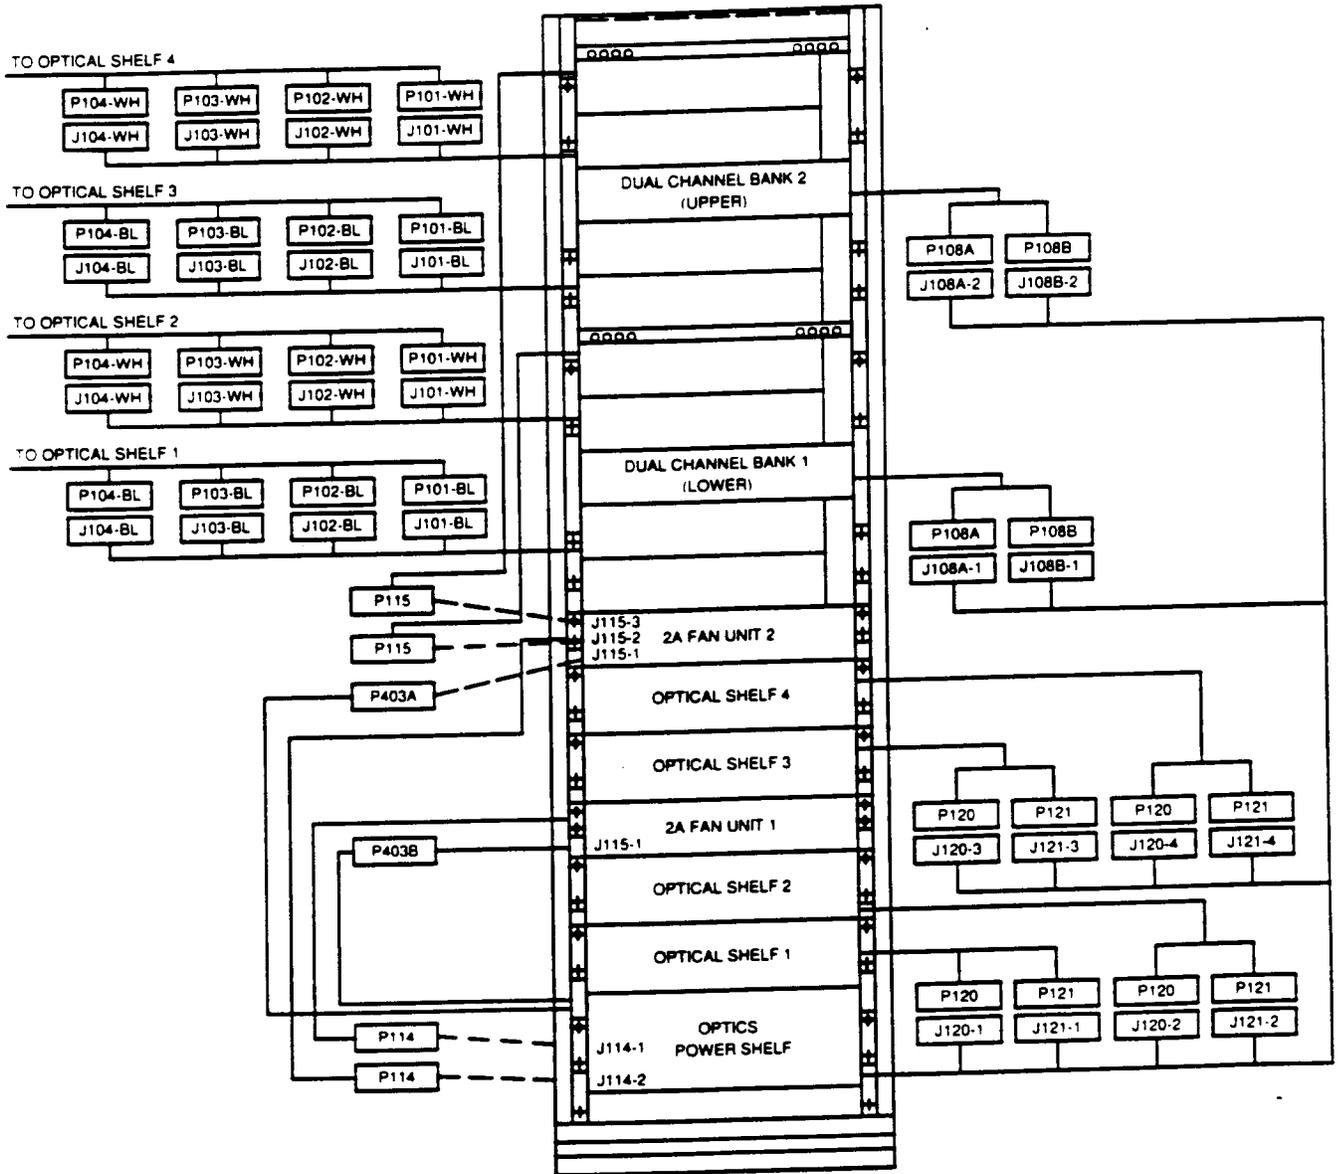

Figure 2—Fiber-To-The-Home 7-Foot Bay Cabling Connections
3. See TABLE C and FIG. 2 for bay connections from the Power Shelf Assembly.
4. See TABLE D and FIG. 2 for intershelf cabling arrangements.
5. Figure 1 shows the Fiber-to-the-Home 7-foot frame equipment bay arrangement. Note that the connections between the dual channel bank 1 and optical shelves 1 and 2 are not shown, but are connected in a similar arrangement as the connections for the dual channel bank 2. Figure 2 shows all the required connections for the 7-foot Fiber-to-the-Home equipment frame. Each optical shelf serves one of the RT systems in the dual RT channel bank assembly.